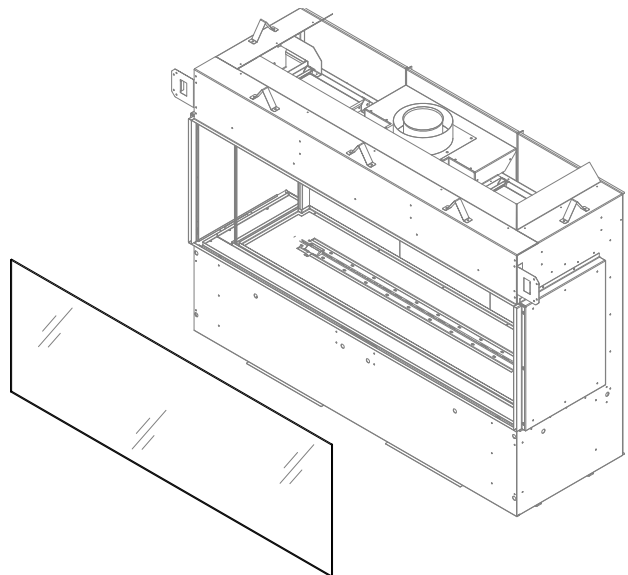

Figure 7.14 - Remove Safety Glass
2. Remove the safety glass, perimeter media tray, firebox glass, and crushed media. You may find it beneficial to remove the lower glass brackets for increased accessibility. Figure 7.14, 7.15, and 7.16.